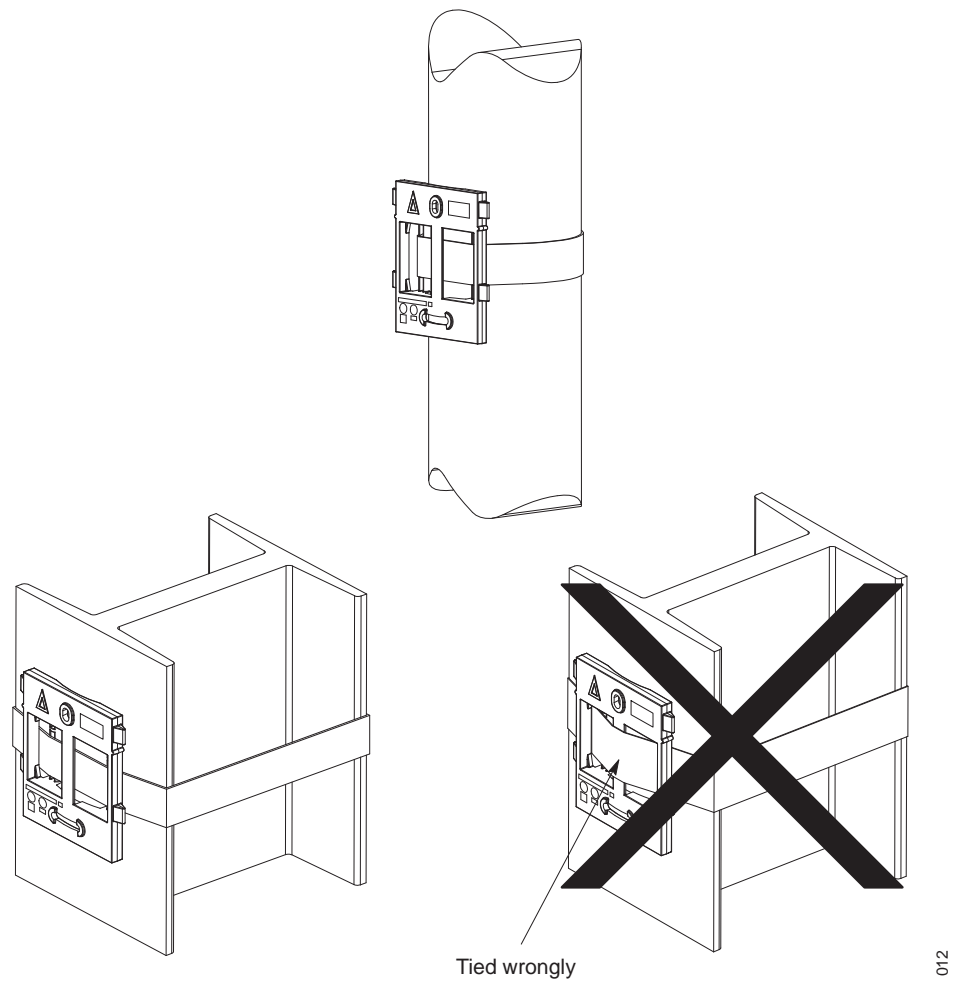

Figure 9. Fixing the mounting bracket to a pole or beam.
- 1 Fix the mounting bracket to a pole or beam using the metal band, see figure 9 on page 20.